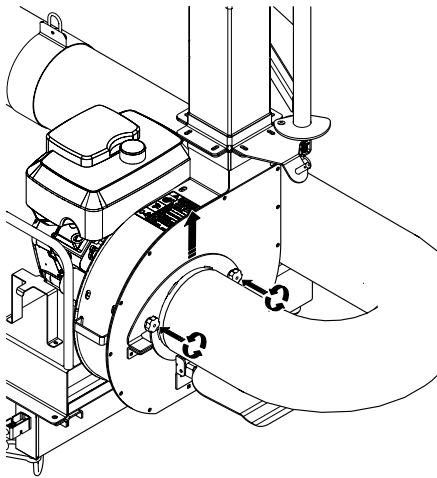

Figure 4-4. Intake Hose Removal
2. When transporting the Truck Loader, remove the hose assembly from the unit. The hose assembly can be removed by loosening the two wing nuts and sliding the intake adapter upward. See Figure 4-4.